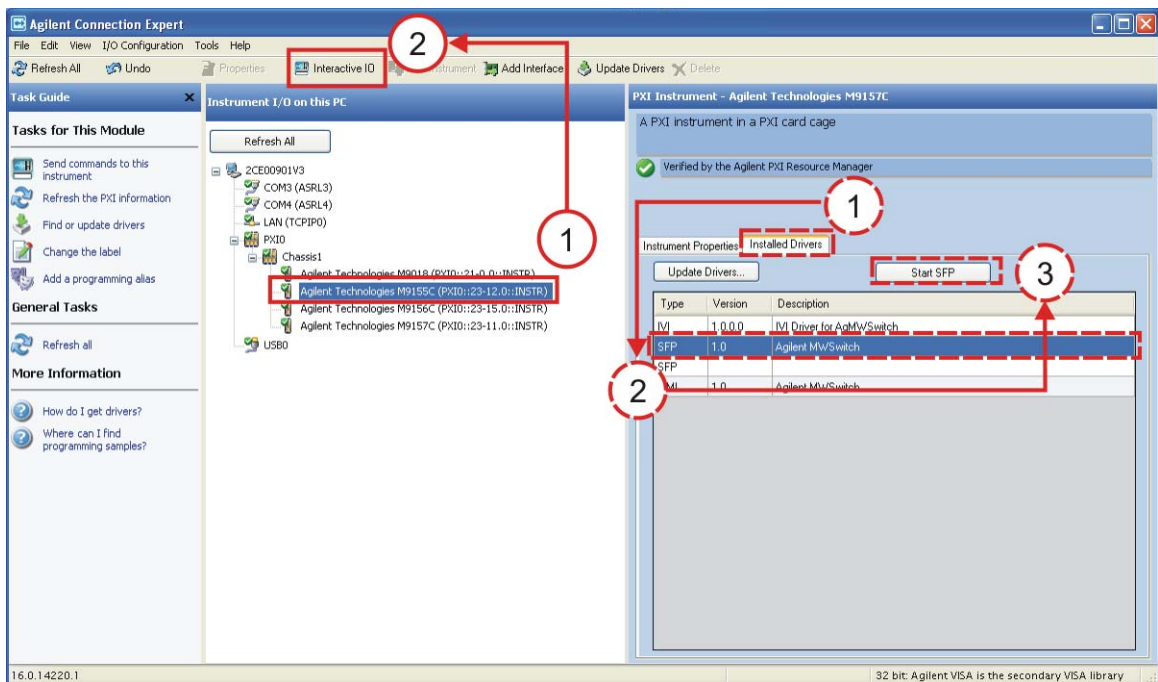

Figure 1-2 Launching the SFP from the Agilent Connection Expert
- 2 Launch the soft front panel (SFP) software from **Start > All Programs > Agilent > MWSwitch > MWSwitch SFP** or from the Agilent Connection Expert. On the Agilent Connection Expert, select the respective M9155/6/7C module and click **Interactive IO** or **Installed Drivers**, as shown in Figure 1-2. If you click **Interactive IO**, the SFP will launch. If you click **Installed Drivers**, select the SFP row and click **Start SFP** to launch the SFP.